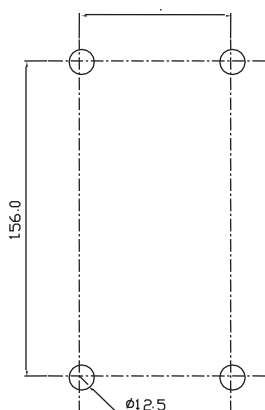

FIG. 18
1. If you want to install the speed dome on the concrete wall, you need to make 12.5mm diameter 4 holes by drill like FIG. 1 (Depth 37mm) (FIG.18)